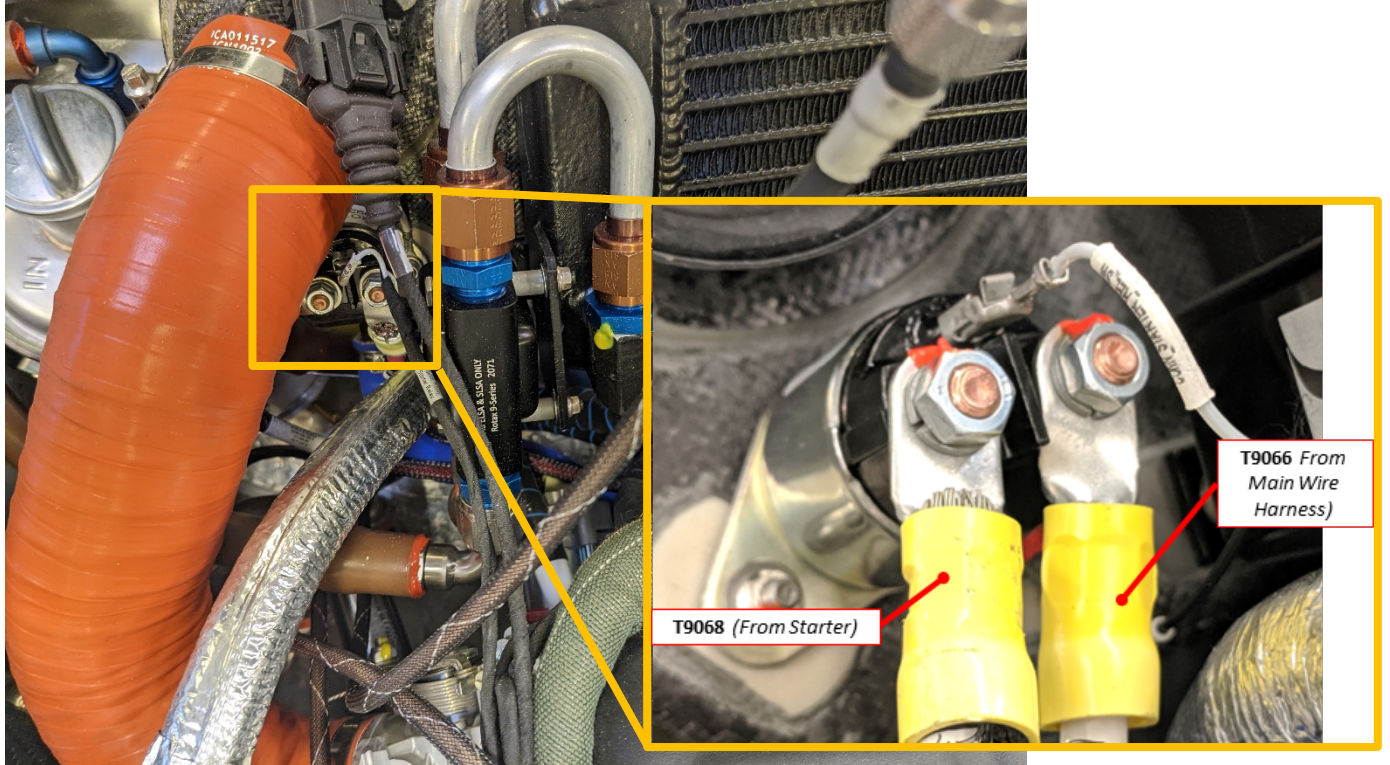

Figure 3 Starter Solenoid (T9068 & T9066)
- i. T9066 (Connected to RH terminal of the Starter Solenoid) See Figure 3
- ii. T9068 (Connected to LH terminal of the Starter Solenoid) See Figure 3
- i. Connect electrical connections to starter relay with retained hardware, see Figure 3.
- iii. **T9068** ring terminal **from starter** to **LH ring terminal** on **starter relay** as shown with supplied hardware see Figure 3.
- iv. **T9066** ring terminal **from main wire harness** to **RH ring terminal** on **starter relay** as shown with supplied hardware see Figure 3.